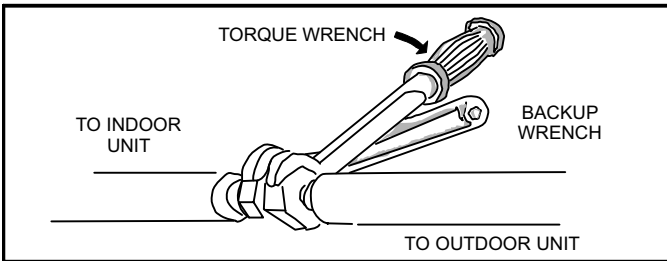
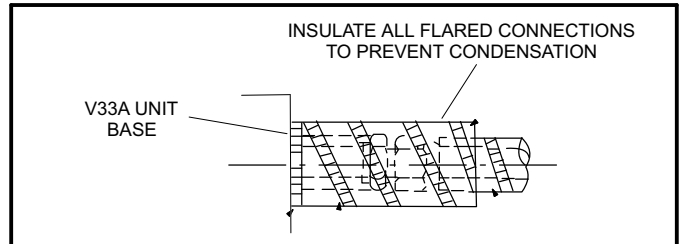

**Figure 4. Making Connections at Indoor Unit (Male to Female Connection)**
**Figure 6. Liquid Line / Expansion Valve Connector**
- 5 - Apply recommended HFC-410A refrigerant lubricant to the outside of the flared refrigerant lines (figure 4-A and figure 6).
- 6 - Align the threaded connections with the flared refrigerant lines. Tighten the flare nuts lightly at first to obtain a smooth match (figure 4-B and figure 6).
- Immediately align the connector pipe with the cassette base liquid line and the electronic expansion valve connection labeled "OUTLET." See figure 6. Hand-tighten the flare nuts at first. Then, use two wrenches to continue to tighten the nuts without twisting the pipes. See figure 5. Torque requirements are given in table 2. **Again, do not over-tighten the flared joints.**